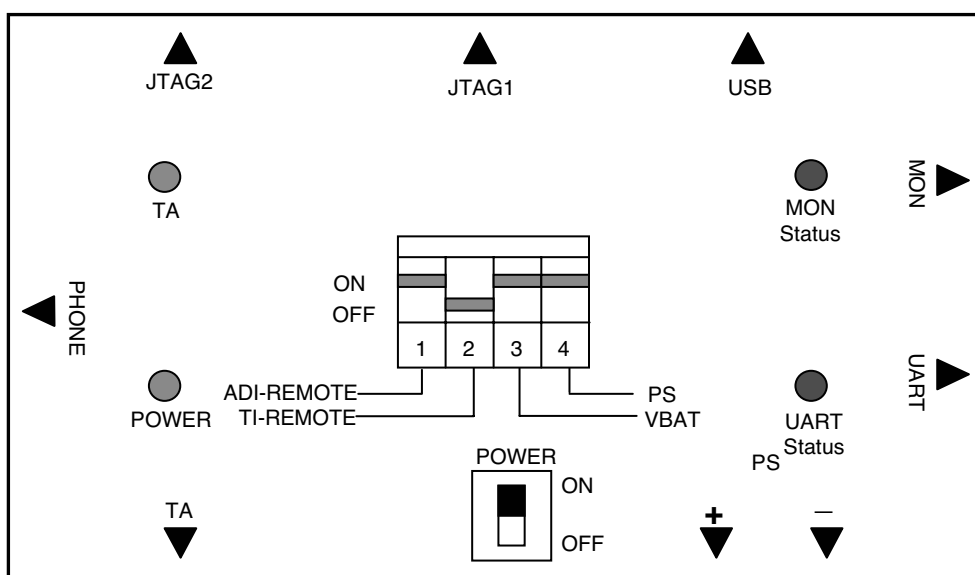

Figure 11-2 The top view of Test JIG
1. Connect as Fig 11-2 (RS232 serial cable is connected between COM port of PC and MON port of TEST JIG, in general.)